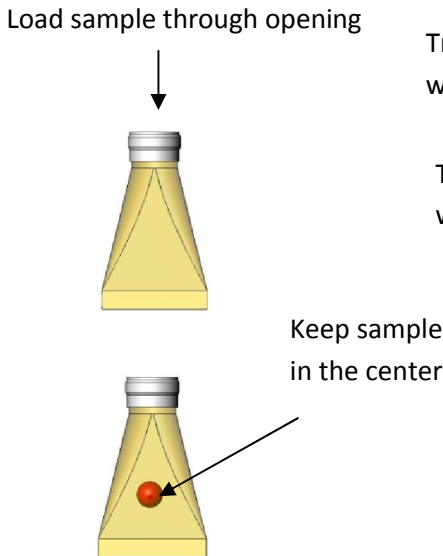

Figure 2
- 3. Load Sample into the Tissue Tube** - Insert the sample through the top opening of the Tissue Tube as illustrated in Figure 2, using forceps or tweezers. Place the sample in the center of the flexible pouch, away from the edges.